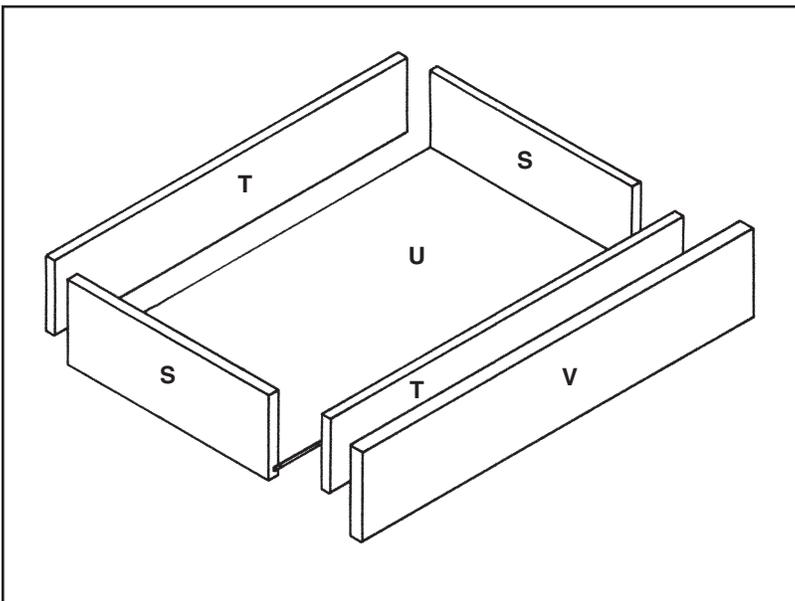

Figure 5
14. Assemble drawer (S, T, U, V) using glue and 1 1/4" finish nails. Refer to Figure 5. Attach drawer guide following manufacturer's instructions.